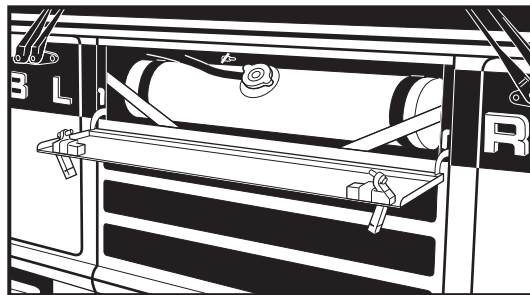

Fig. 2
1. Release press button latches on center panel (Fig 1) and allow panel to open downward (Fig 2).